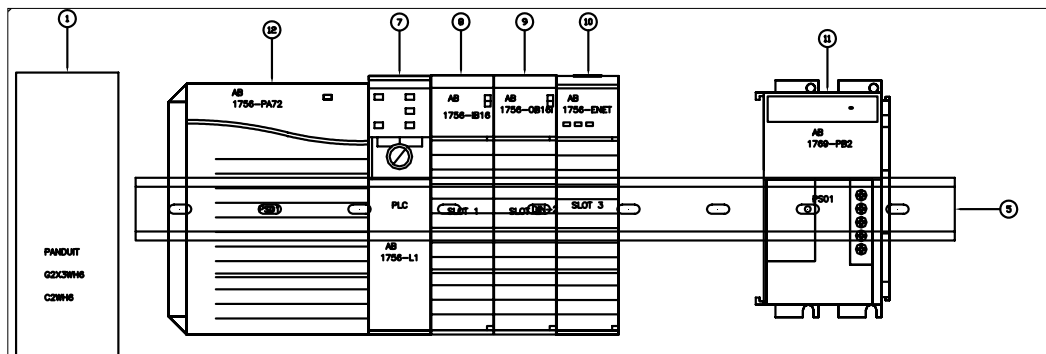
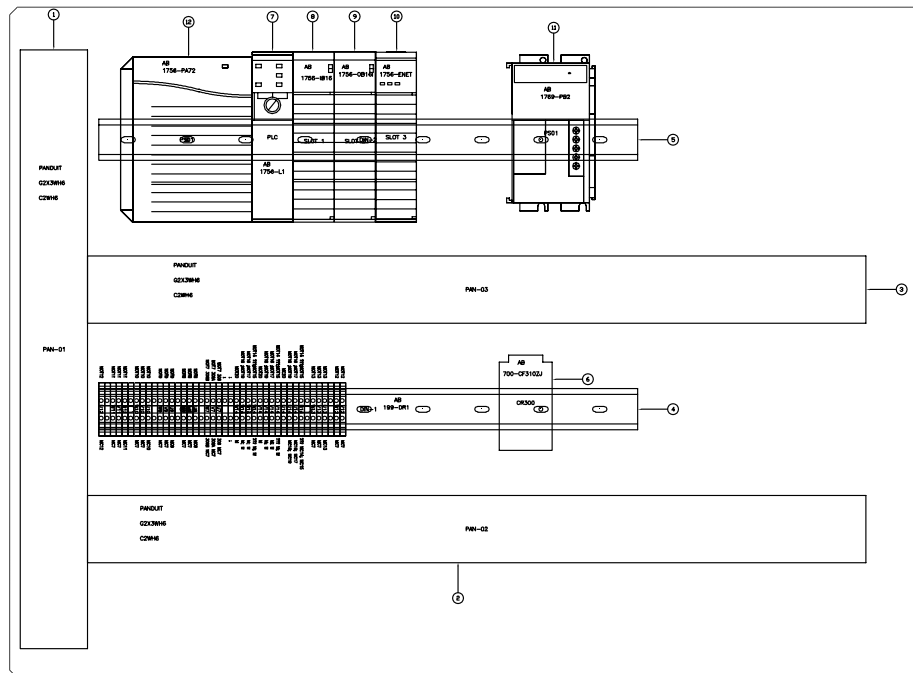

Figure P2-19 Attributes inserted in the upper part of the panel layout drawing
Figure P2-21 Panel layout drawing after inserting the attributes
10. Similarly, you need to make Xdata of the rest of the footprints visible. To do so, repeat step 1, select the remaining footprints, and then place the attributes in the footprints, as shown in Figures P2-19 and P2-20. Figure P2-21 shows the panel layout drawing after inserting the attributes.